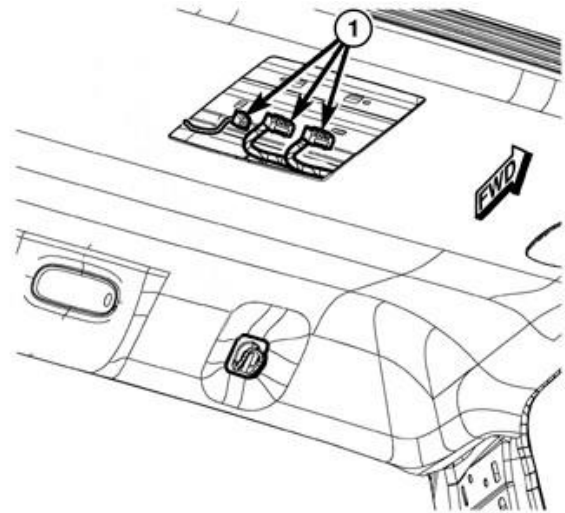

Figure 33 – DVD Monitor Electrical Connectors
23. If equipped with DVD monitor, disconnect the electrical connectors (1) (Figure 33).
43. If equipped with DVD monitor, connect the DVD monitor electrical connectors (1) (Figure 33). Position the DVD monitor to the roof then install and tighten the screws (2) (Figure 32).